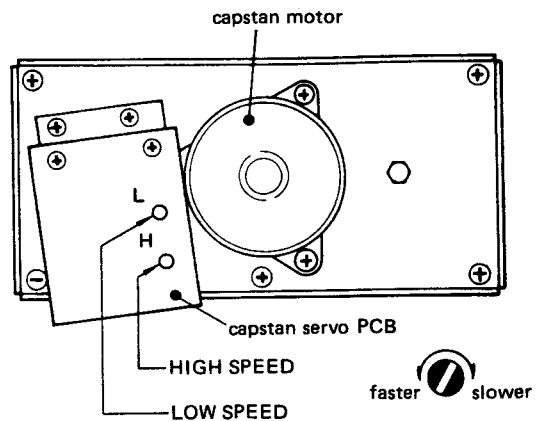

Fig. 2-17 FWD/REV play speed adjustment points
3. Play the tape. Adjust HIGH SPEED control (see Fig. 2-17) for a reading of 3,000Hz \pm 5Hz.
1. 調整箇所 図2-17参照